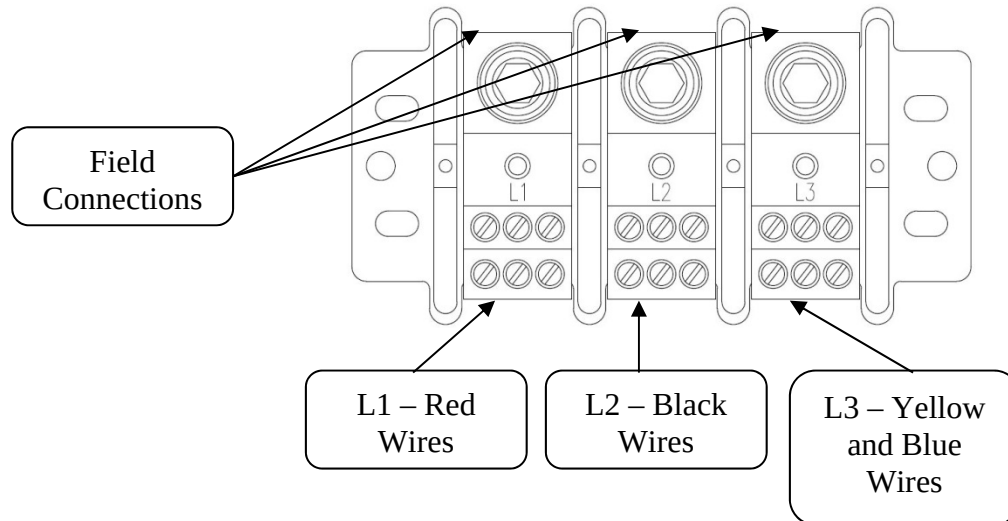

Figure 11. Three Phase Terminal Block Connections
1. Figure 11 shows a three phase terminal block as originally manufactured. Disconnect blue wires and yellow wires from terminal L-3 of the terminal block.